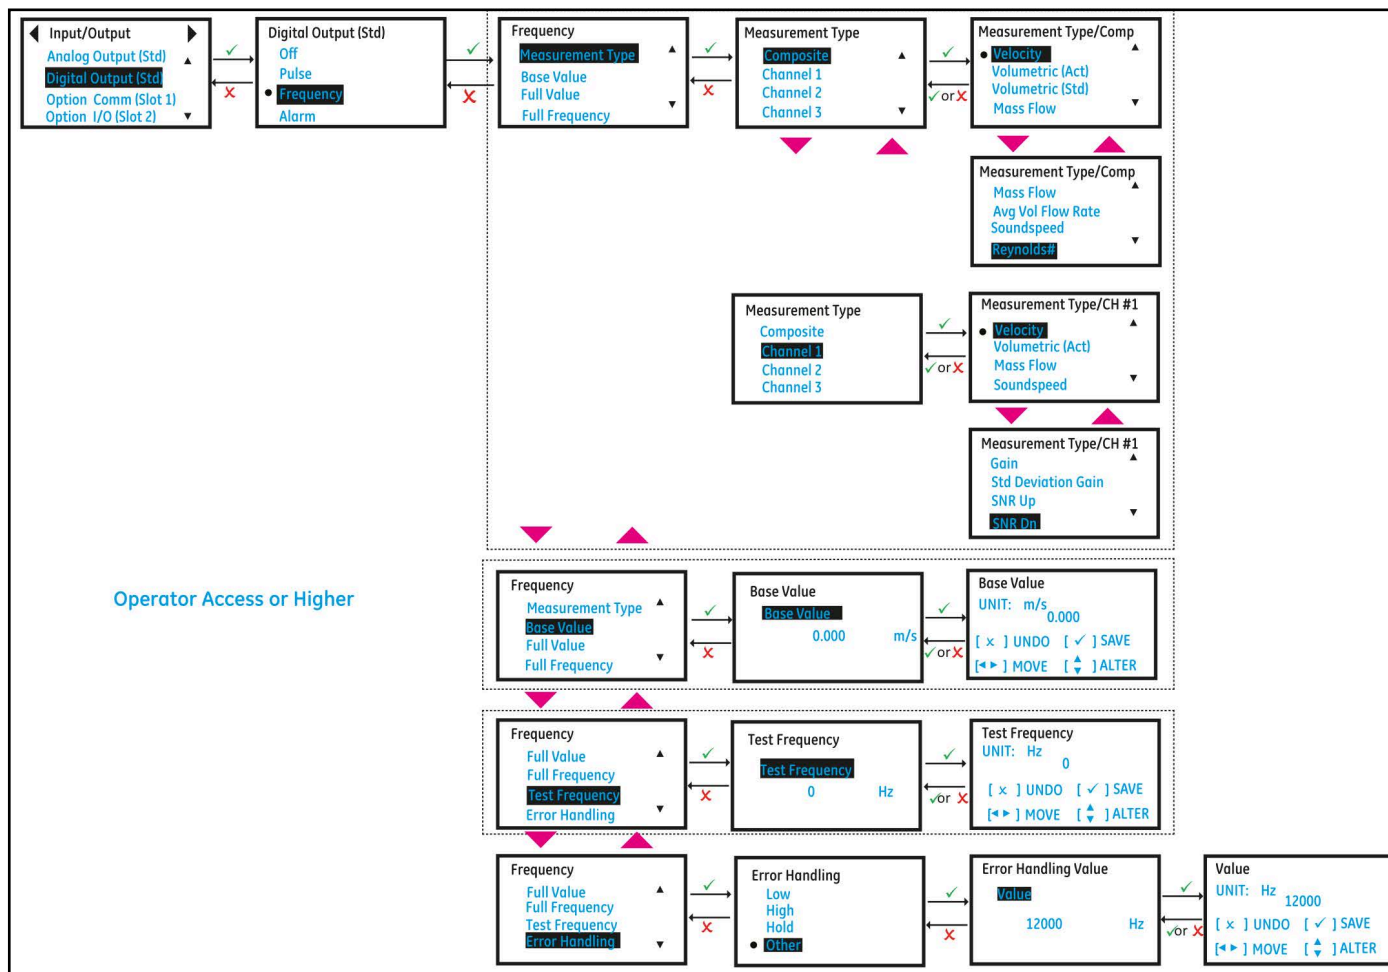

Figure 33: Setting up Frequency Output
2. Setup the **[Measurement Type]**, **[Base Value]**, **[Full Value]**, **[Full Frequency]**, **[Test Pulse]** and **[Error Handling]** options to suit your needs. The *Figure 33* below, shows the available options. Also refer to the *Table 10* below to understand each option.